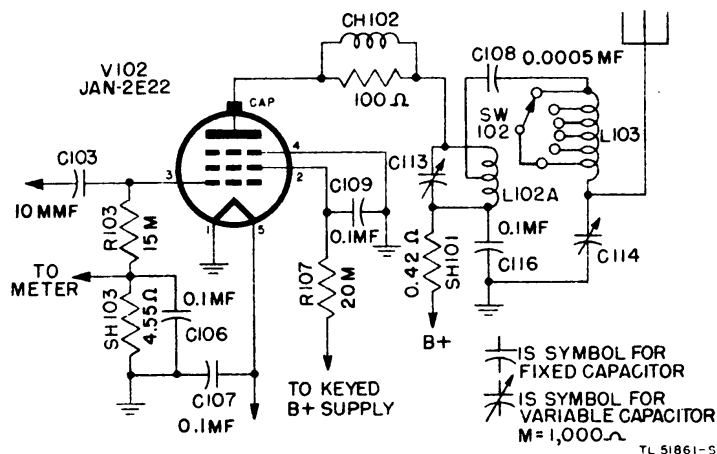

Figure 36. Power amplifier V102, simplified diagram.
70. POWER AMPLIFIER (fig. 36).
c. The r-f output from the plate-tank circuit is coupled through capacitor C108 to the antenna matching network consisting of tapped coil L103 and variable capacitor C114 (fig. 36). By adjusting TRANS. ANT. TAP SWITCH SW102 and the variable capacitor, the antenna impedance may be matched to